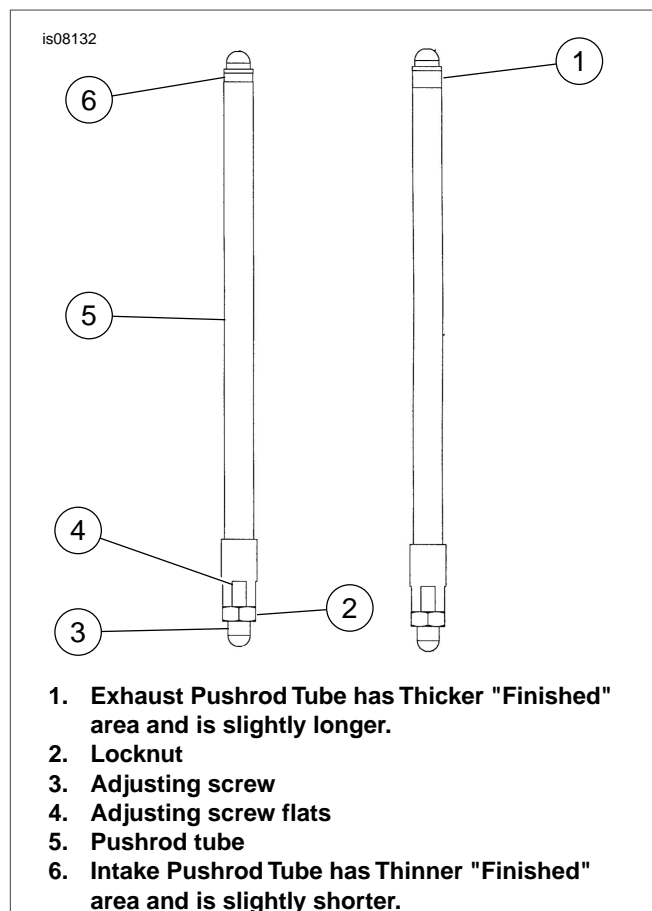

Figure 1. Adjustable Push Rod
5. See Figure 1. Loosen locknut on all of the pushrods and adjust them to their shortest length.
See Figure 1. In Step 6, pushrods with the Thinner "Finished" area on the tubes must be installed to the Intake location on the cylinders; pushrods with the Thicker "Finished" area on the tubes are slightly longer and must be installed to the Exhaust locations on the cylinders.
2. See Figure 1. With the pushrod tube kept from rotating with a 1/2 inch or adjustable wrench, slowly turn the adjusting screw with a 5/16 in. wrench, 2-1/2 complete turns counter clockwise (lengthening the pushrod) as viewed from the bottom. (You may wish to mark adjuster to aid in counting turns.)